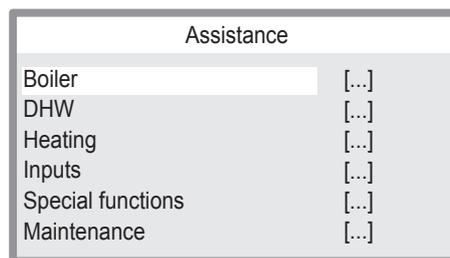

Figure 9.10
- 3 Press key "D" (Figure 9.7) to access the selected menu (Figure 9.10).